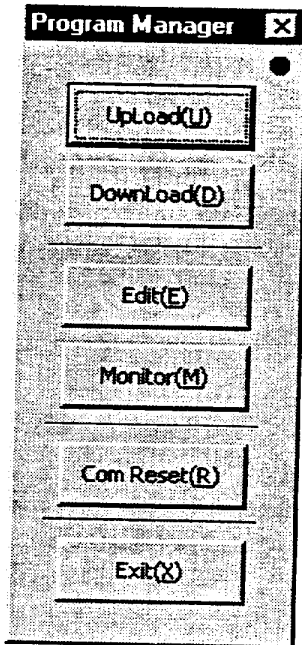

Figure 7.30 "Program Manager" dialog box
Click "*Program (G)*" under "MainMenu" to display the "Program Manager" dialog box (see Figure 7.30).